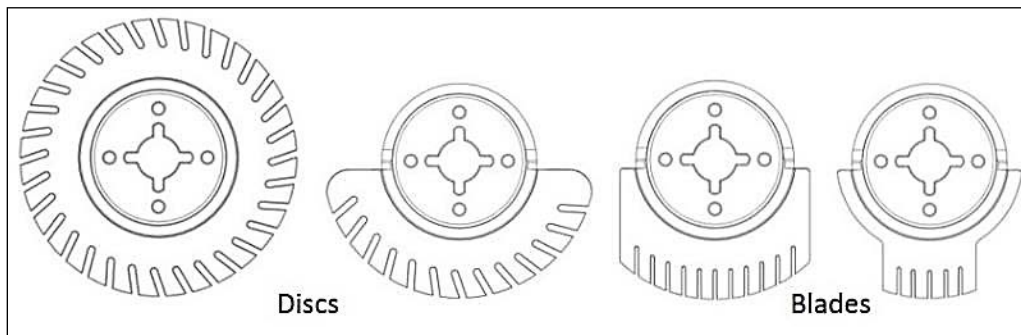

Figure 1. GFR-Disc/Blade Configurations
- 3.1.1. Choose an appropriate size/configuration GFR-Disc/Blade for the application or task being performed. See **Figure 1**.